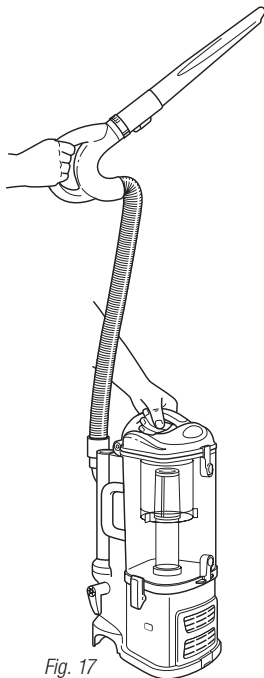

Fig. 17
- 4 Press the On/Off switch to the "I" position to turn the vacuum on for above-floor cleaning and hold the handle in one hand while you carry the portable Lift-Away® around the house with the other hand. (Fig. 17)